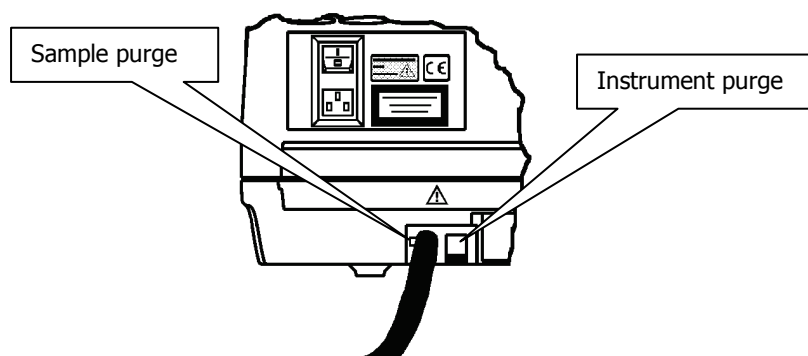

Figure 30 Connector fitted to purge port
3. Push the connector on the end of the tubing into the purge connector of the compartment to be purged (Figure 30).